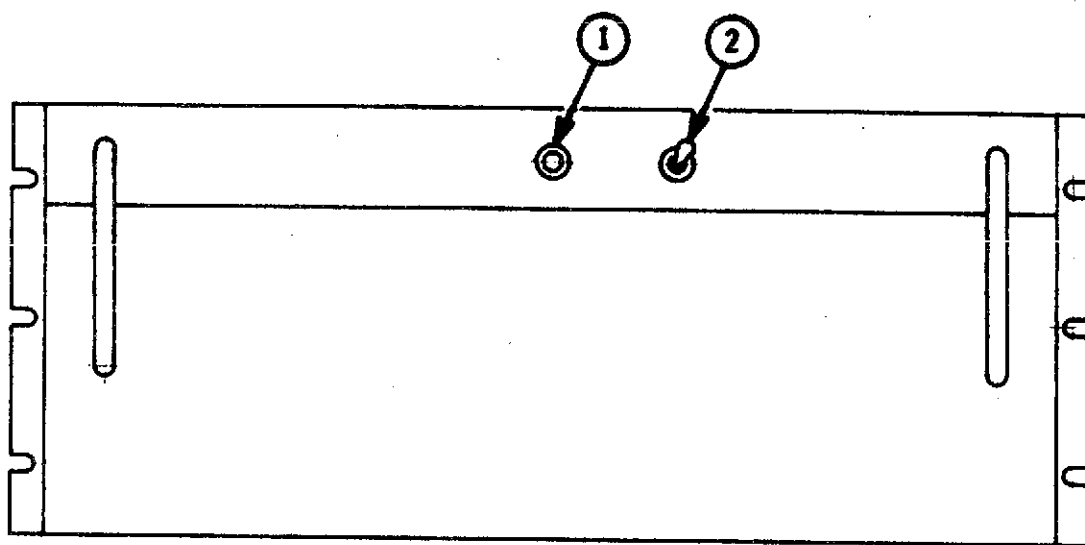

Figure 2-14. AC Power Inverter (Topaz Model 1000 GW-12-24-60)
2.15 AC POWER INVERTER (TOPAZ MODEL 1000 GW-12-24-60) (FIGURE 2-14)